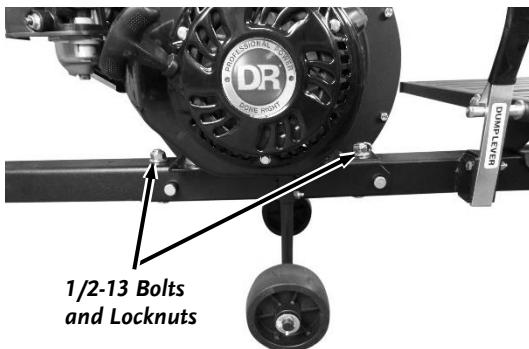

Figure 15
- Place the two 1/2-13 X 2.75" Bolts from underneath up through the two vertical Holes and secure with 1/2-13 Locknuts using two 3/4" Wrenches (**Figure 15**).